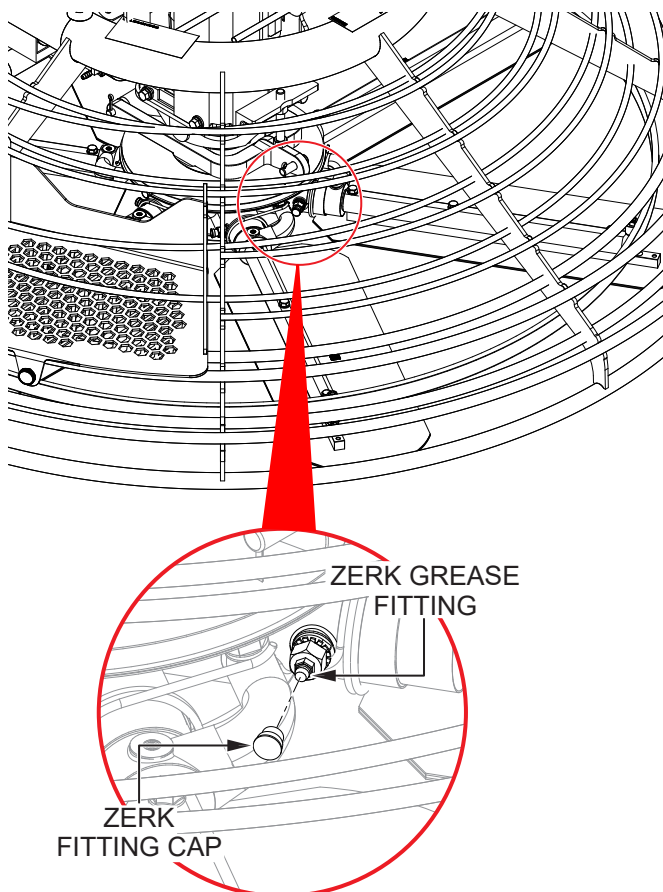

Figure 31. Spider Lubrication
1. Locate one of the Zerk grease fittings on either spider assembly (Figure 31). Remove the Zerk fitting cap and set it aside.